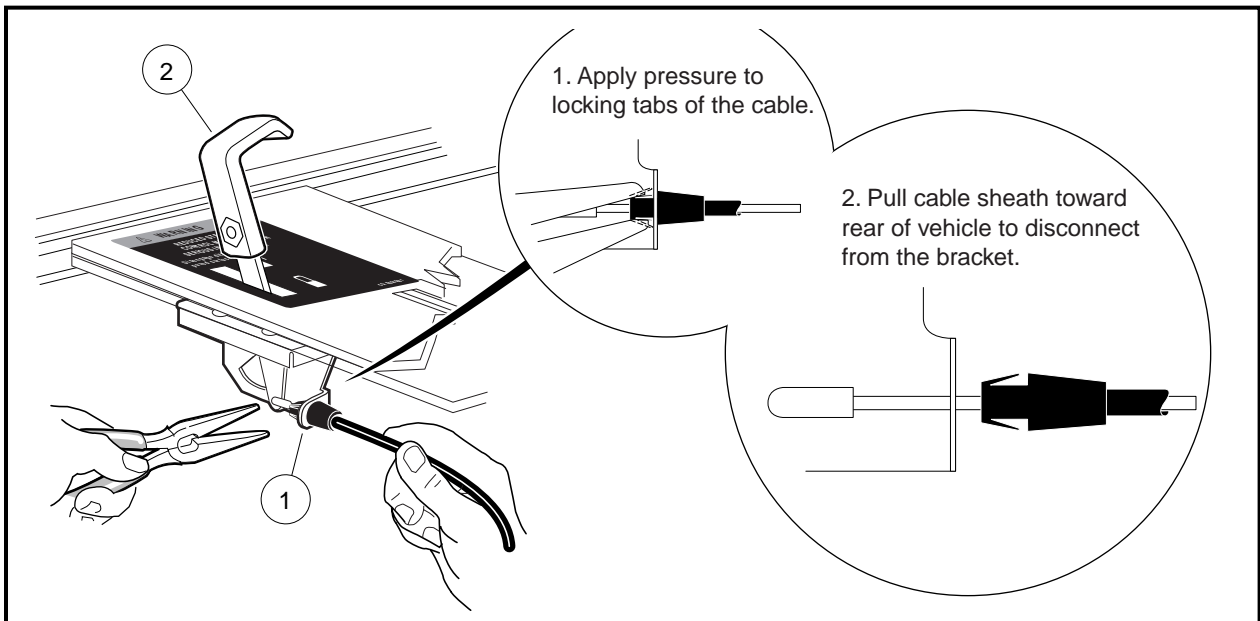

Figure 16-13 Differential Lock Cable Bracket
3.5.2. Using a pair of pliers, apply pressure to the locking tabs of the cable end (1) where it attaches to the differential lock handle mounting bracket (**Figure 16-13, Page 16-8**).
3.5.3. While maintaining pressure on the locking tabs, pull the differential lock cable toward the rear of the vehicle to disconnect the cable from the bracket (**Figure 16-13, Page 16-8**).